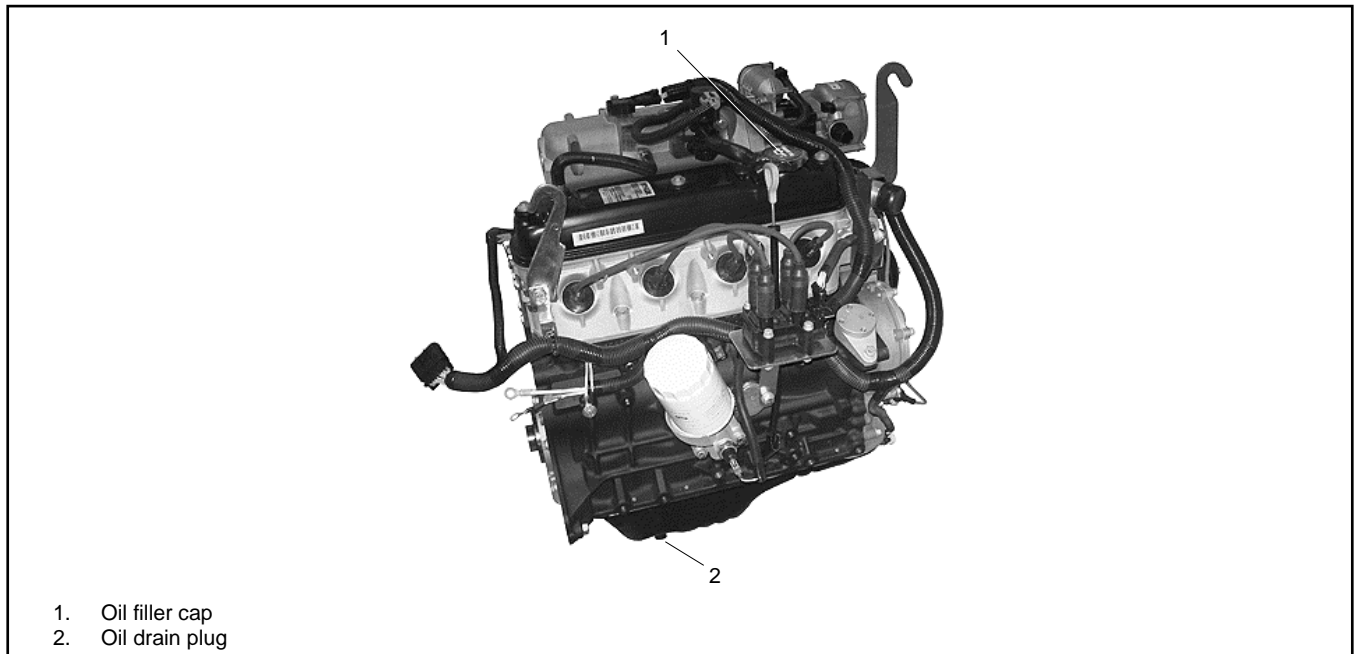

Figure 20 Oil Fill and Drain Plug Location
2. Place a drop cloth and collection container beneath the oil drain plug. See Figure 20.